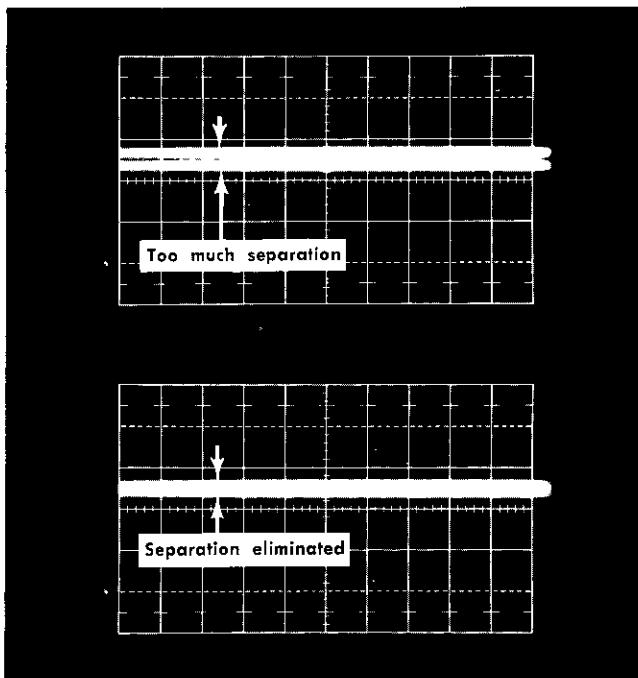

Fig. 6-13. Noise waveforms, step 7. Sweep rate 5  $\mu$ s/div; deflection factor 1 mV/div.
h. Decrease the + TRANSITION AMPLITUDE to a point where the dark line between the two traces is just eliminated. Use Fig. 6-13 as a guide. (The desired presentation is obtained when a point is reached where doubt exists as to whether the dark line is or is not eliminated.) The two traces are now separated by noise.